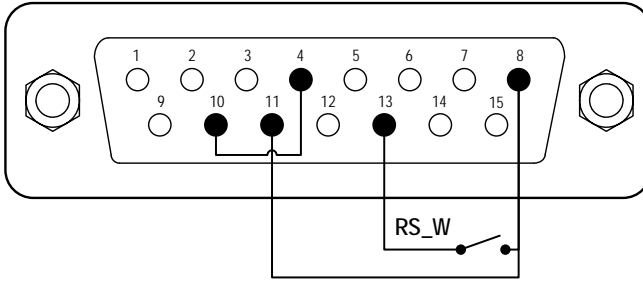
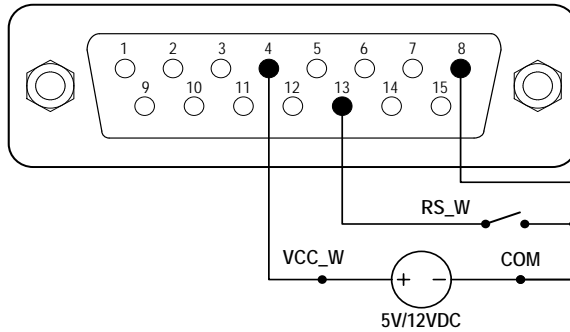

Figure 18. Logic Level Control with Internal 12V DC Power Source
Figure 19. Logic Level Control with External 5V/12V DC Power Source
- 1) Switch the pump power off. Wire the DB15 connector as shown on Figure 18 or Figure 19, and connect it to the DB15 port on the rear of the pump.